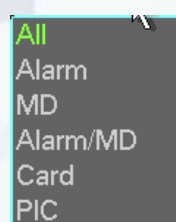

Figure 4-41
- **Picture backup:** Please set the corresponding time, channel and then select the type as PIC from the dropdown list. Please click the Add button and then select the pictures. Click the Start button; you can then copy the specified pictures to the selected portable devices, See Figure 4-41.